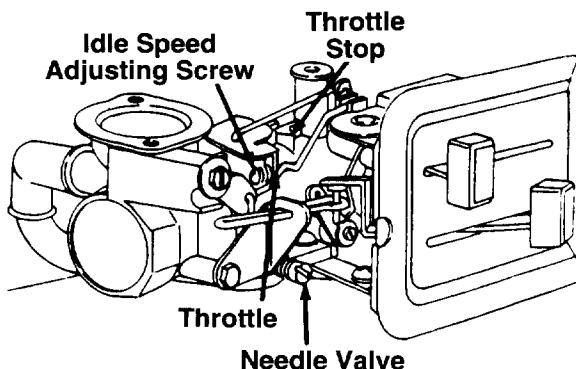

FIGURE 17.
- Close needle valve (see figure 17) clockwise (↷) finger tight only. Forcing may cause damage. Then open 1-1/2 turns counterclockwise (↶).